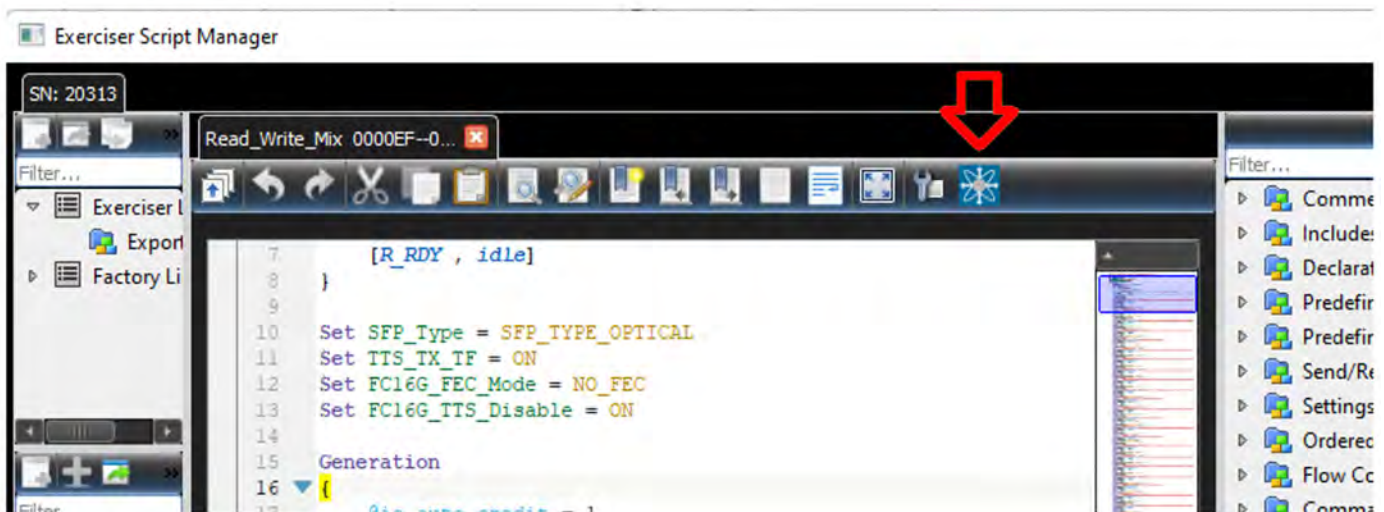

Figure 8.46: Find Target Icon on the Exerciser Script Manager Screen
- There is a **Find Target** icon on the Exerciser Script Manager. Using it launches the Find Target dialog form which you can easily select different targets to add to the Exerciser Script Manager. See Figure 8.46.